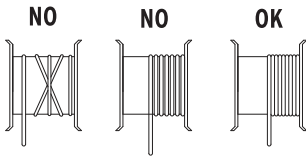

FIG.6
Note: When the cable is operated unloaded, it is enough to tighten the cable by hand (figure 6).
11. Confirm the cable is rolled correctly in the drum (see figure 6).